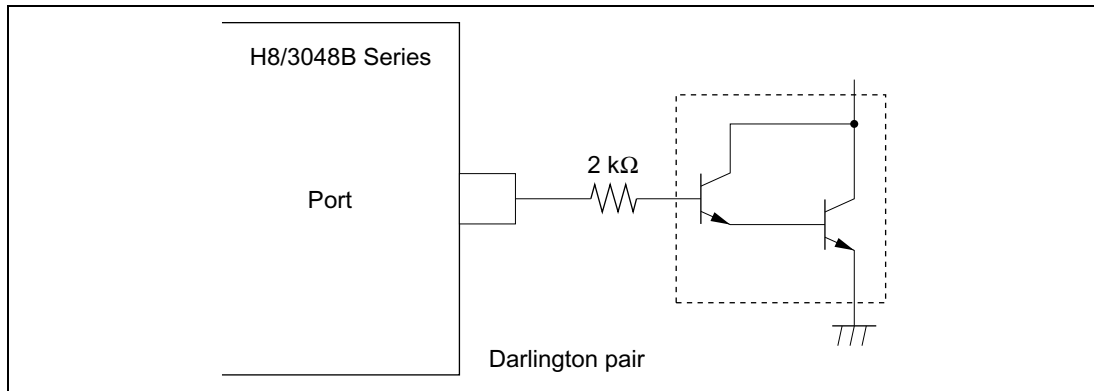

Figure 21.4 Darlington Pair Drive Circuit (Example)
2. When driving a darlington pair or LED, always insert a current-limiting resistor in the output line, as shown in figures 21.4 and 21.5.